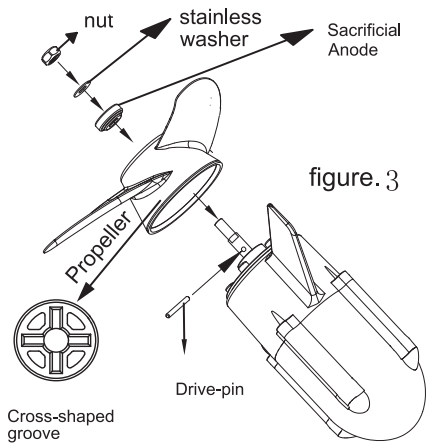

figure.3
1. Install the drive pin into the shaft hole and align it with the propeller (The drive pin and the propeller groove must align horizontally). Once the propeller is in place, install the sacrificial anode, stainless washer and nut into the shaft. (figure.3)